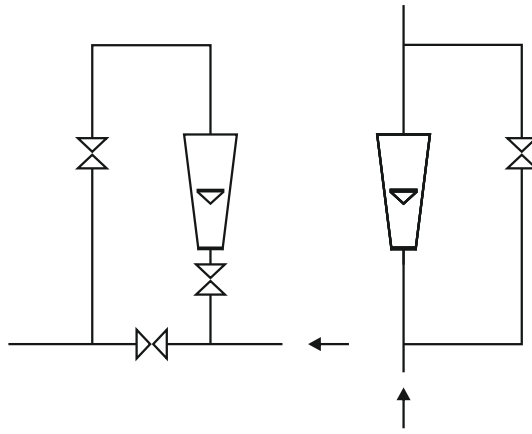

fig. 2
- 6)The strong blows of floats by buffer can cause breakage of glass pipe. We can avoid this situation by installing additional cut-off valve (fig.2). In periods, in which occur strong changes of flux the cut-off valve should be open. After fixing of flux the cut-off valve has to be closed and the rotameter indication should be read.